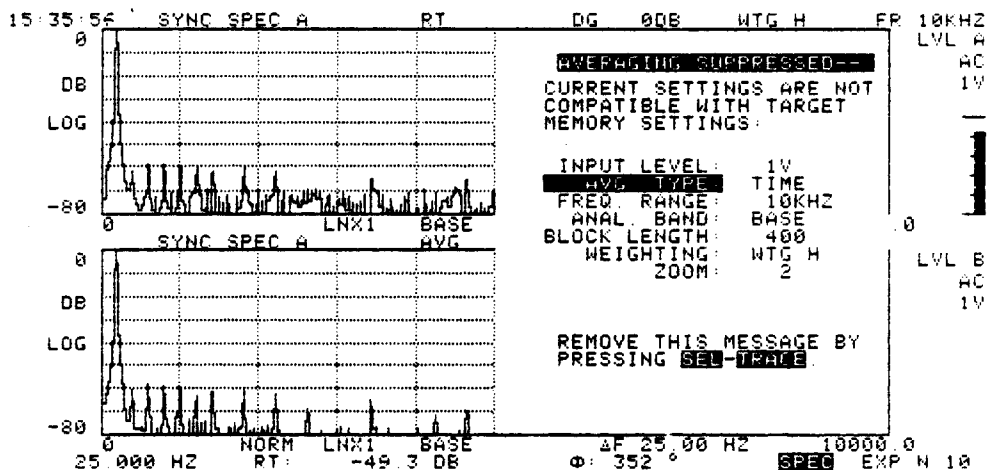

Figure 1-12. Average Error Message
Press AVERAGE START and observe both traces. The variations in amplitude are caused by non-synchronous data acquisitions. Press SCROLL UP to return to the Input Memory. Display Setup Page 1 and select UPDATE MODE menu item 4, REPEAT (AMP) TRIG. Press SETUP ON/OFF and position the RV on GRP TIME. SCROLL UP to select the Spectrum group. Press the AVERAGE STOP, AVG locator and SCROLL DOWN buttons to select spectrum-data averaging. Press AVERAGE CONT and note the message on the right side of the display as shown in Figure 1-12. If new data to be entered into the Average Memory are not compatible with data already acquired, this message will appear. The conflict will be highlighted by an RV.